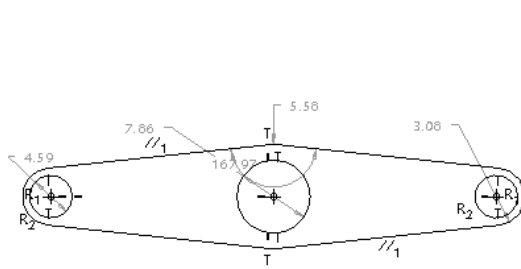

Figure 3-32 Sketch with constraints
- Apply the required constraints and dimensions to the sketched entities, refer to Figure 3-32.
2. Select the center of the right and left circles; the centers of the circles turn black in color. Now, using the middle mouse button, place the dimension below the sketch. The sketch after applying constraints is shown in Figure 3-32.